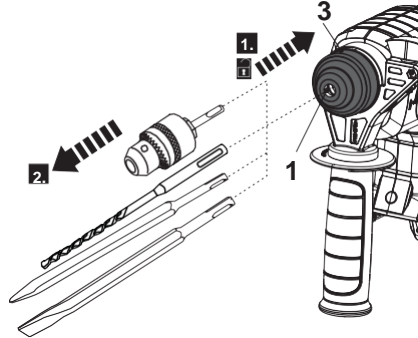

Fig. 4
1. Pull the chuck sleeve (3) backward and hold it in position (Fig. 4, step 1).
2. Remove the drill bit / chisel from the drill chuck (1) (Fig. 4, step 2).